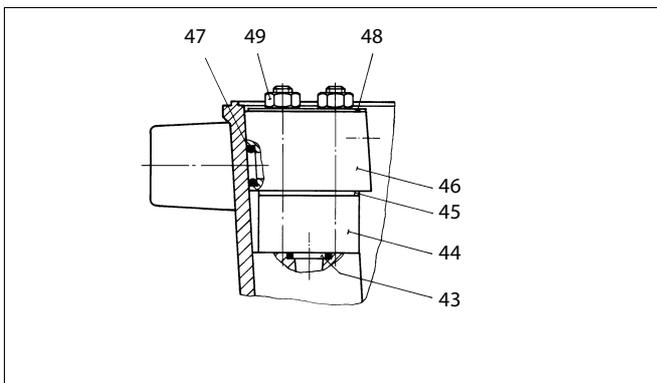

Fig. 9 Mounting the changeover piece
The figures marked on the cam plate (29) are the signal ranges expressed as percentages, for example 0-100 corresponds to 4-20 mA, or 50-100 to 12-20 mA. See Fig. 9.